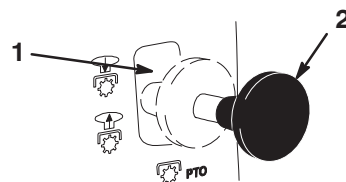

Figure 5
2. Pull the blade control (PTO) to **on** (Fig. 5).
2. Push the blade control (PTO) to off (Fig. 5).
4. Push the blade control (PTO) to **off** (Fig. 5).